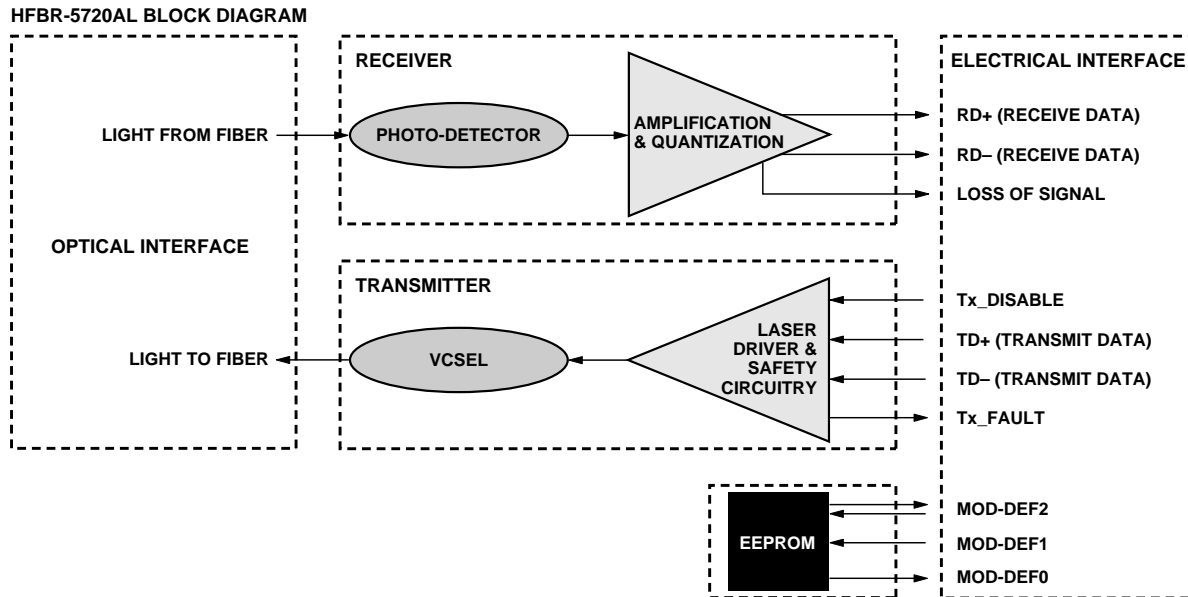
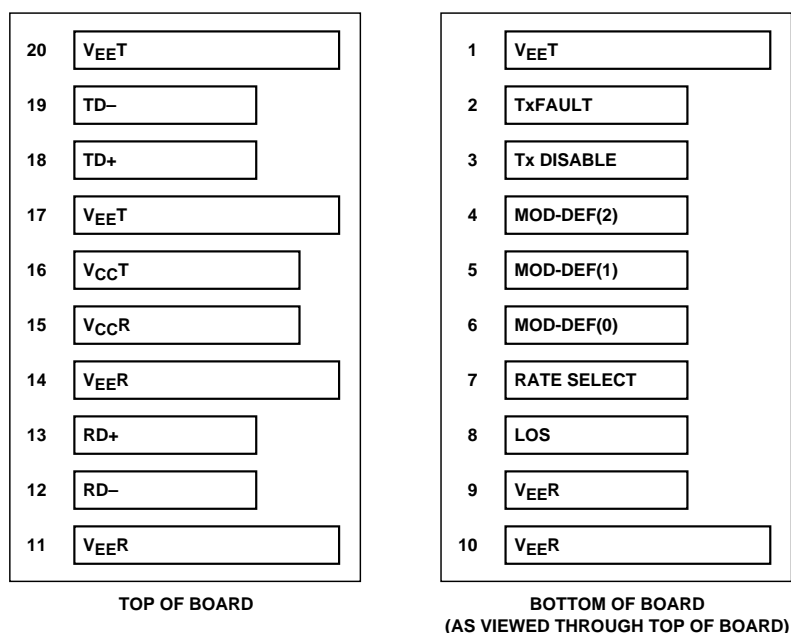

Figure 1. Transceiver functional diagram.
Figure 2. Connection diagram of module printed circuit board.
Figure 1 illustrates the major functional components of the HFBR-5720AL/ALP. The connection diagram of the module is shown in Figure 2. Figure 7 depicts the external configuration and dimensions of the module.
Ground, (2) Power, and then (3) Signal pins, making contact with the host board surface mount connector in that order. This printed circuit board card-edge connector is depicted in Figure 2.
Avago’s HFBR-5720AL/ALP fiber-optic transceiver is designed to accept industry standard differential signals. In order to reduce the number of passive components required on the customer’s board, Avago has included the functionality of the transmitter bias resistors and coupling capacitors within the fiber optic module. The transceiver is compatible with an “AC-coupled” configuration and is internally terminated. Figure 1 depicts the functional diagram of the HFBR-5720AL/ALP.